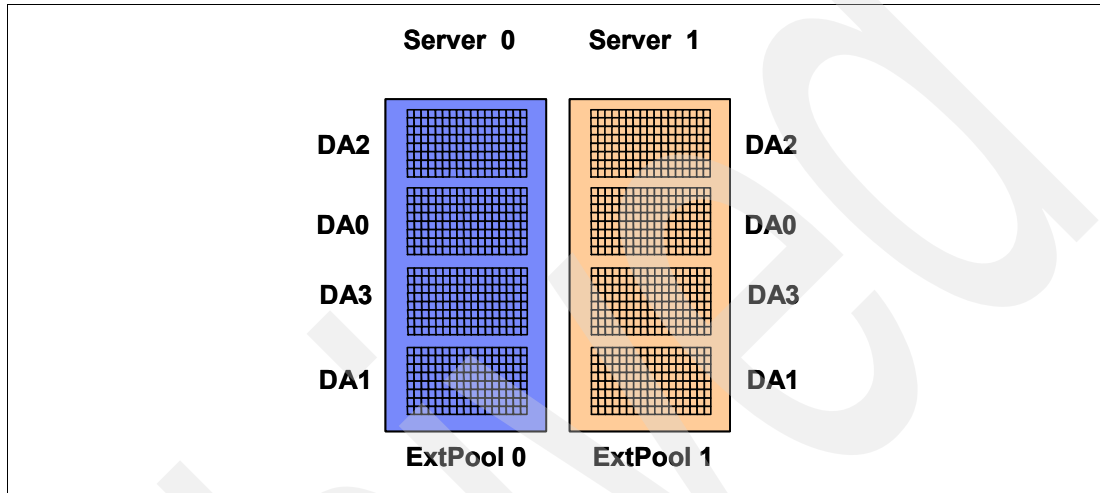

Figure 7-9 Ranks in a multirank Extent Pool configuration balanced across DS8000 servers
**Important:** It is important that you balance your ranks and Extent Pools between the two DS8000 servers. Half of the ranks should be managed by each server (see Figure 7-9).